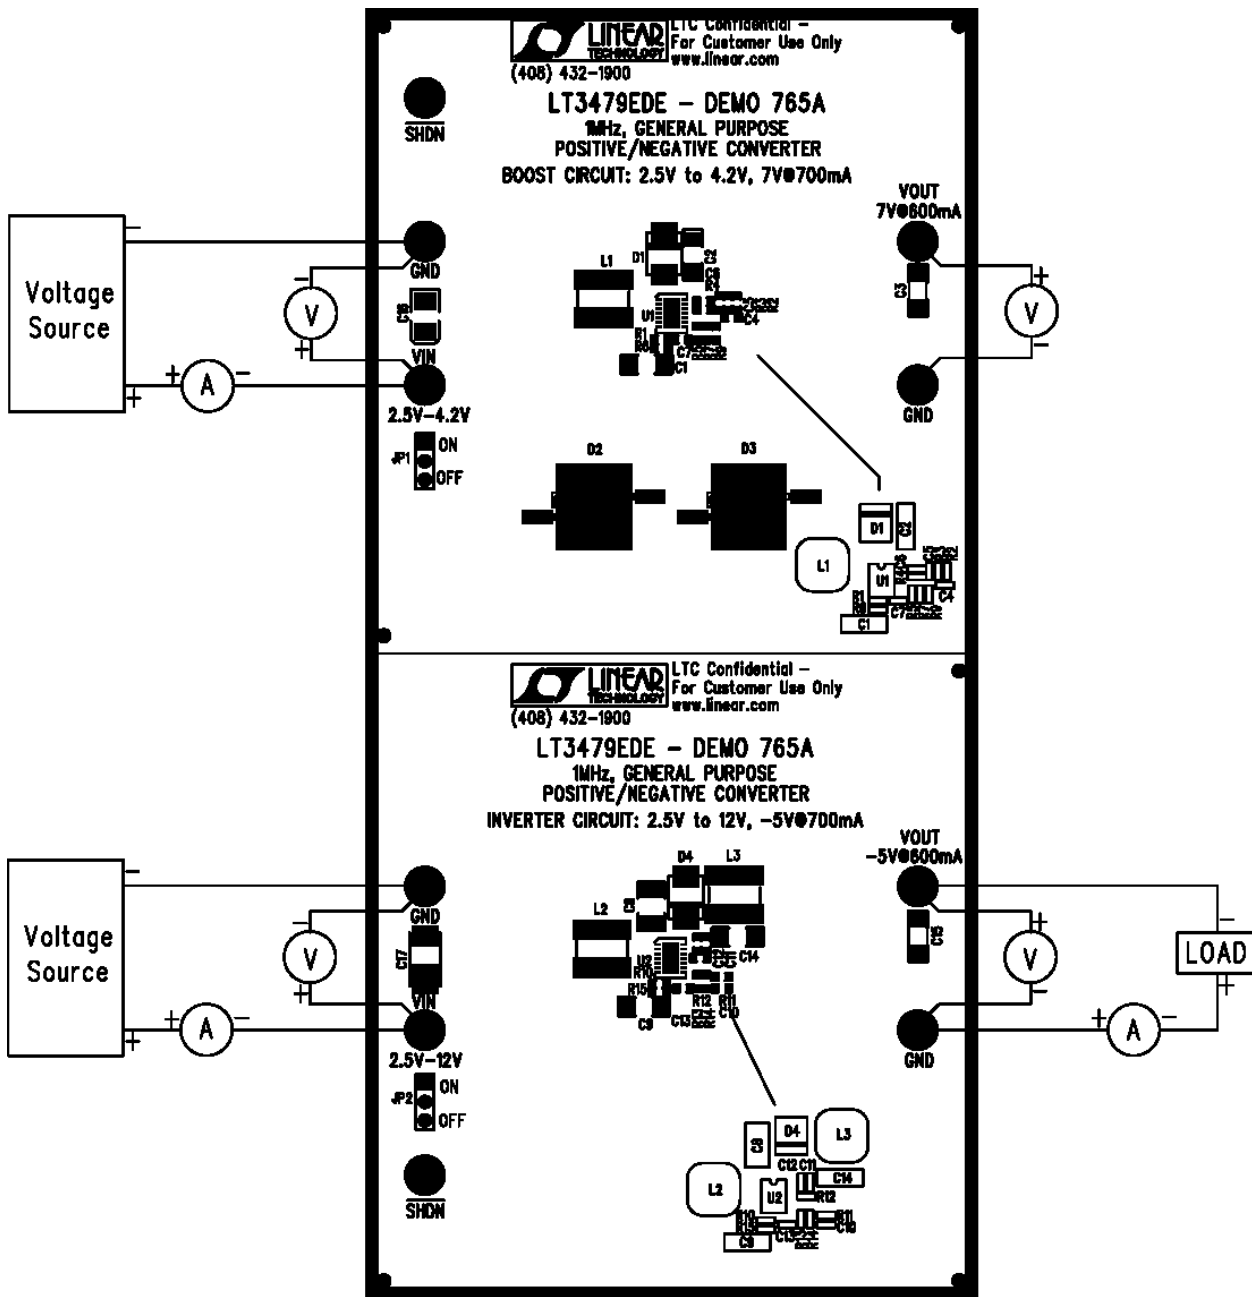

Figure 1. Proper Measurement Equipment Setup
Demonstration circuit 765 is easy to set up to evaluate the performance of the LT3479. Refer to Figure 1 for proper measurement equipment setup and follow the procedure below:
**NOTE:** When measuring the input or output voltage ripple, care must be taken to avoid a long ground lead on the oscilloscope probe. Measure the input or output voltage ripple by touching the probe tip directly across the VIN or VOUT and GND terminals. See Figure 1 for proper scope probe technique.